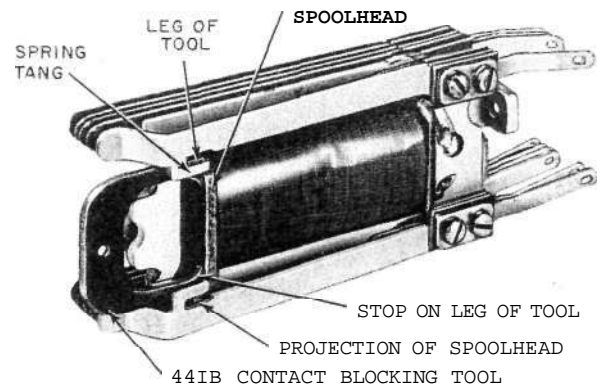

Fig. 36—Blocking EA4T Relay for Cutover Purposes
(4) EA41 Relay: Fig. 36—Using the 441B